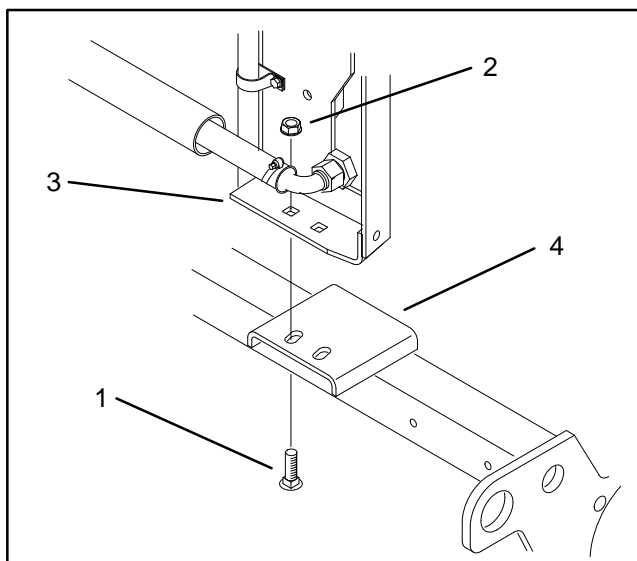

Figure 23
- C. Remove carriage bolts (1) and whiz nuts (2) from the radiator bracket (3) and frame (4) (Fig. 23).
- C. Reinstall engine (25) onto the frame. Make sure fastener holes of the mount brackets (22, 34, and 46) are aligned with the holes on the frame.
- D. Secure cap screws (42) and flange nuts (27) to the mount brackets (22, 34, and 46) and frame.
- E. On the right rear mount bracket (46), tighten cap screws (36). Torque cap screws from 34 to 42 ft–lb (4.7 to 5.8 kg–m).
- D. Install carriage bolts (1) and whiz nuts (2) to the radiator bracket (3) and frame (4) (Fig. 23).